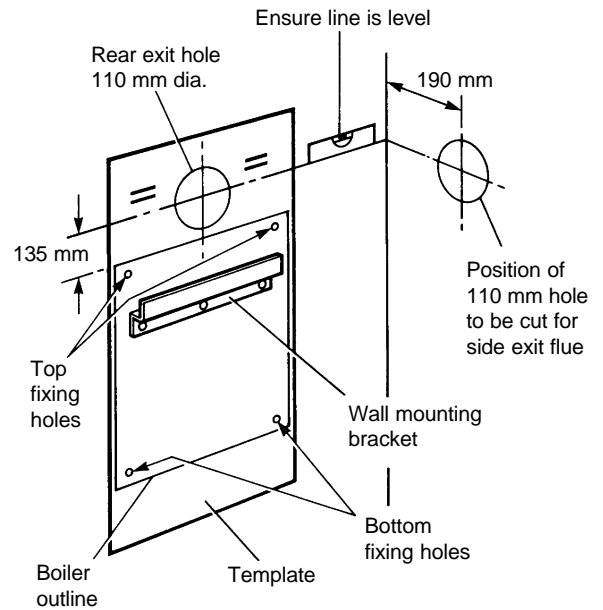

Fig. 9
4.3 PREPARE THE WALL - Figs. 9, 10
4.4 FIT THE BOILER - Refer to Fig. 9